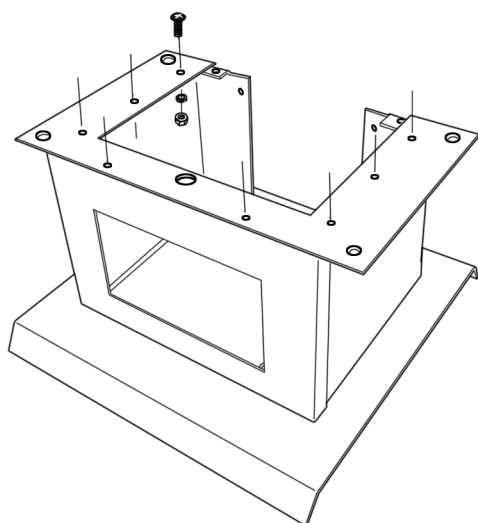

Figure 6 – Attach Pedestal Top.
6. Position the pedestal top with the large vent hole positioned toward the front and attach with six (6) machine screws, lock washers and hex nuts. (See Figure 6)